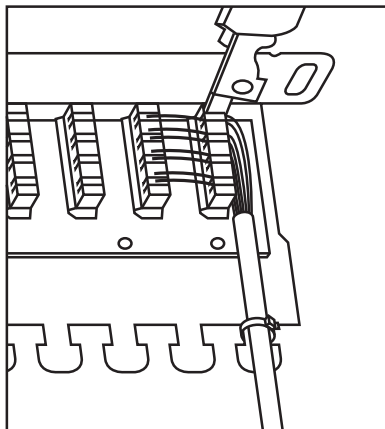

Figure 5. Terminating the cable.
5. Use a standard 110 panel punchdown tool to terminate the cable. See Figure 5.